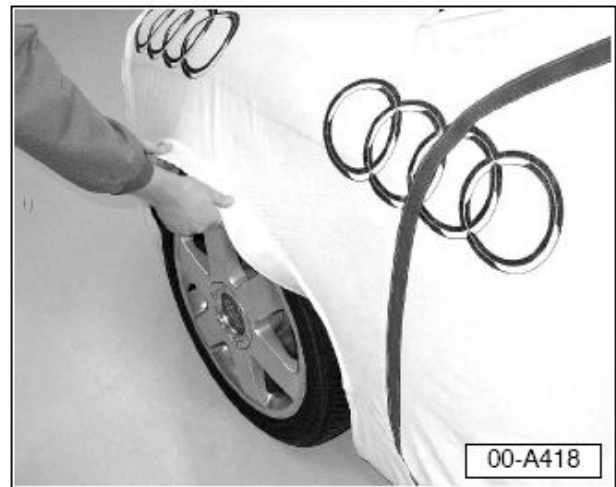

Figure 8. Shake out debris.
8. Fold out molded sections from within wheelhousings. Shake out any debris that may have accumulated under the molded wheelhouse sections before removing (Figure 8).